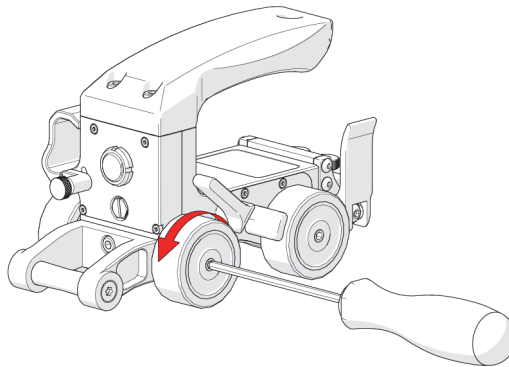

Figure 2-3 Wheel removal
2. Thread or unthread the desired wheel with a hex driver while holding the wheel tight with the hand (see Figure 2-3 on page 39).